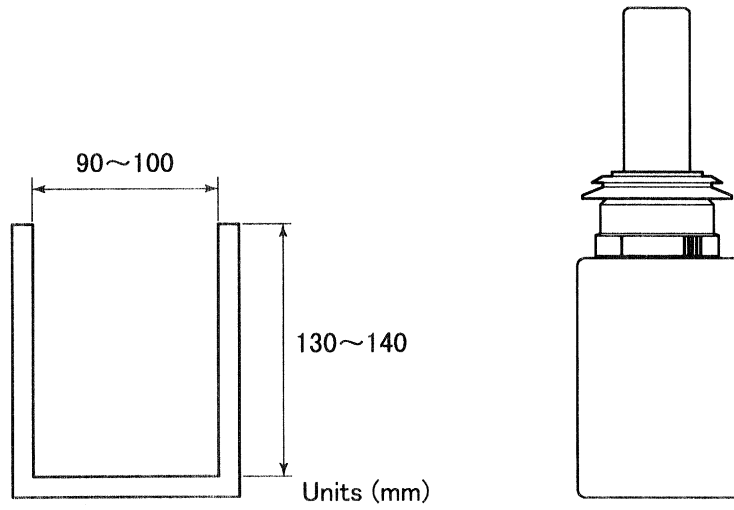

Fig. 3.2 Dimensions of the Socket Holder and Installation Example
- (1) Fig. 3.2 shows the shape of Socket Holder. Consult your dockyard engineer regarding installation of the Socket Holder.
- (1) Switch off the own ship's radar.
- (2) Remove SART from the storage location and install it in the SART emergency installation location. (The compass deck or other such location.)
- (3) Switch the SART power ON. (Refer to 4.2.1 How to Switch the SART Power ON)
- (4) If socket holder is already installed, insert SART with the radome facing upwards into socket holder securely. (Refer to Fig. 3.2 Dimensions of the Socket Holder and Installation Example)